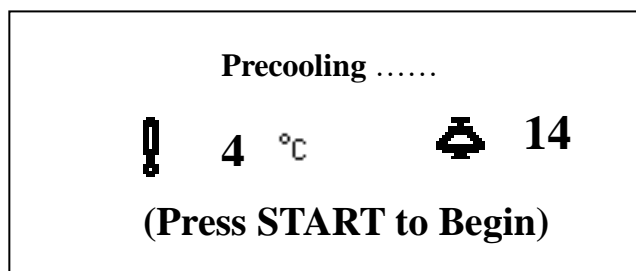

Figure 7-5 Pre-cooling interface
- The pre-cooling screen is shown as figure 7-5.
■ During the pre-cooling operation, the Figure 7-5 displays the operating temperature.
■ During the pre-cooling process, the instant rotating speed can be checked by pressing the  button. The value will display at left corner of the Screen and disappears 3 seconds later. And the instrument will return to the state of Figure 7-5.